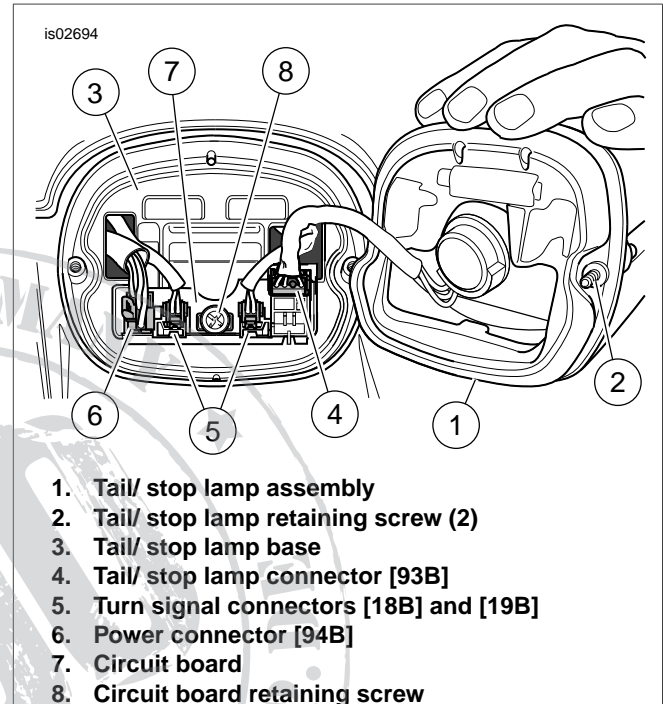

Figure 1. Removing the Tail/ Stop Lamp Assembly
2. See Figure 1. Loosen the two Phillips head screws (2) retaining the tail/ stop lamp assembly (1) to the lamp base (3), and pull the lamp assembly away from the base.
3. Depress the locking tab, and disconnect the tail/ stop lamp four-place Multilock socket housing [93B] (4) from the circuit board (7). Remove the lamp from the vehicle.